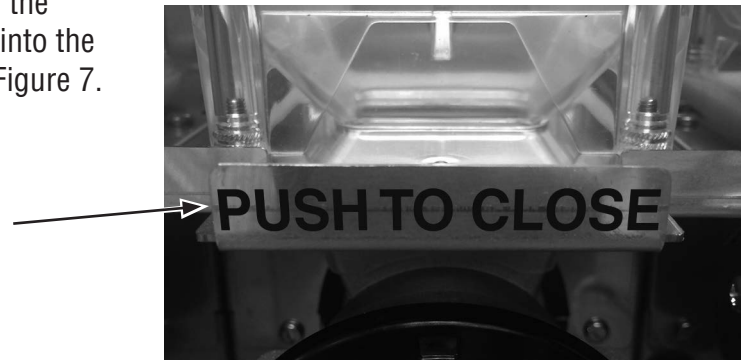

Figure 7
10. When the hopper is in place on the grinder, pull the hopper gate all the way forward to allow beans into the grinder, then lock hopper in place as shown in Figure 7.